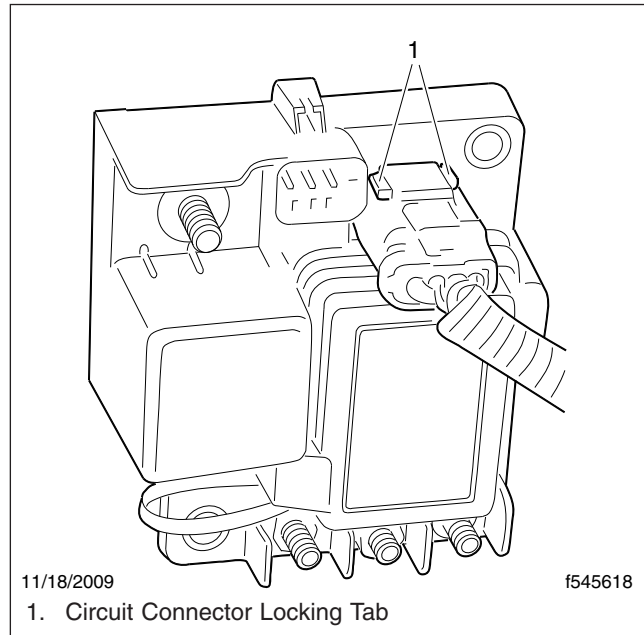

Fig. 2, Removing the Circuit Connector
- 5.2 Press and release the tab, then remove the connector. See **Fig. 2**.